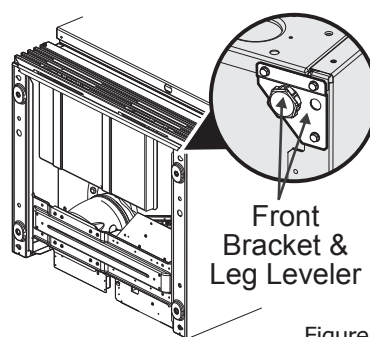
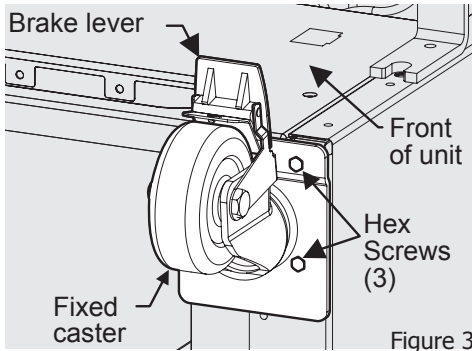

Figure 1
Figure 3
4. Remove and discard the two front brackets with leg leveler using a 5/16" socket wrench. See Figure 1.
Locate and align fixed caster (with brake lever facing front of unit - see Figure 3) over the same mounting holes from bracket in Figure 1 using 6 hex screws (3 for each caster). Secure the screws snug using a $\frac{3}{8}$ " open end wrench. Repeat this procedure for opposite corner. **DO NOT OVERTIGHTEN.**